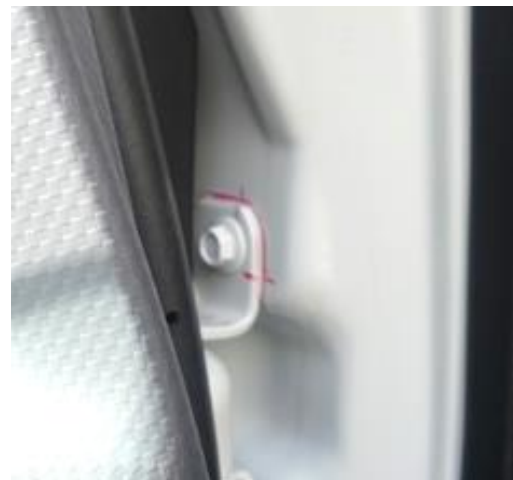

Figure 6
4. Using a grease pencil make an alignment mark for reference on the door hinge and front door panel. (See Figure 6.)